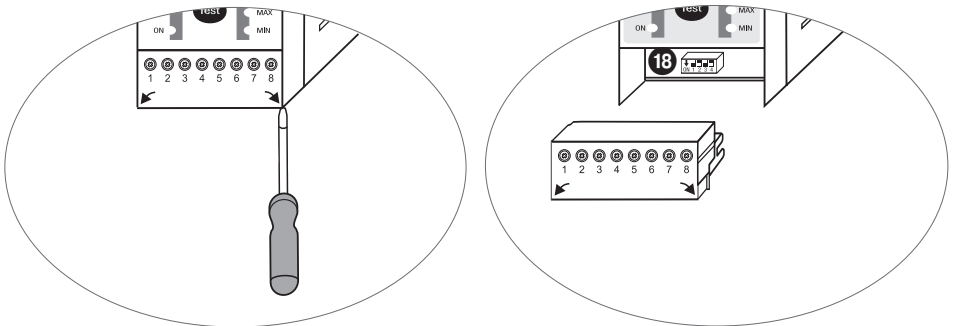

Fig. 11
- Remove the lower and upper terminal strips. **Fig. 11.**